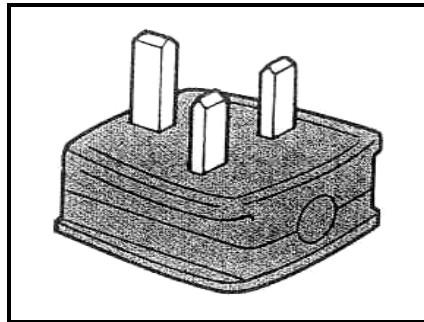

FIGURE 3.3
- 3.3 FIGURE 3.3 below shows an electrical three-pin plug. Answer the questions that follow.